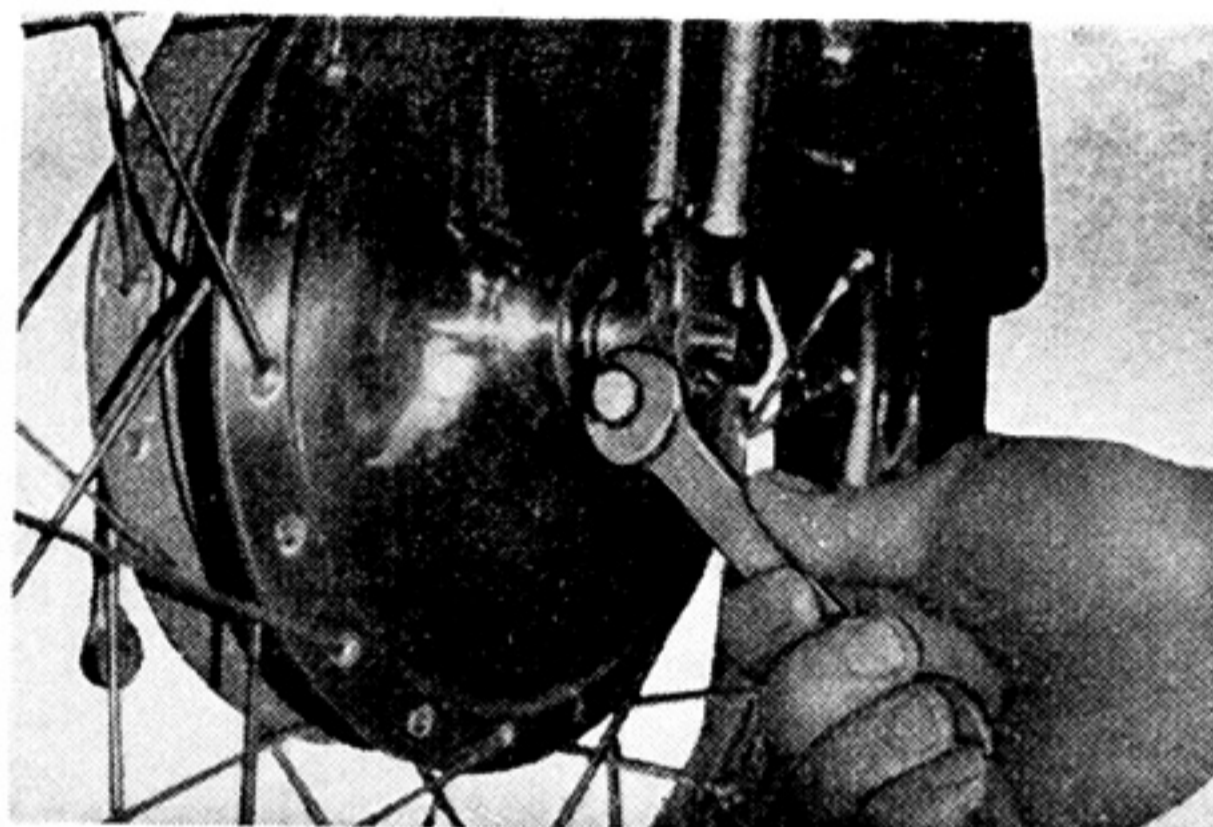

Fig. 4-1-4
- c. Loosen the front wheel shaft lock bolt. (Fig. 4-1-4)